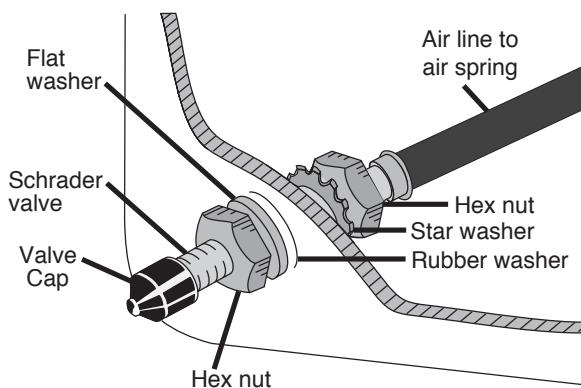

fig. 11
4. Place a 5/16" nut and star washer on the air valve. Leave enough of the inflation valve in front of the nut to extend through the hole and have room for the rubber washer, flat washer, and 5/16" nut and cap. There should be enough valve exposed after installation – approximately 1/2" (13mm) – to easily apply a pressure gauge or an air chuck (Fig. 11).